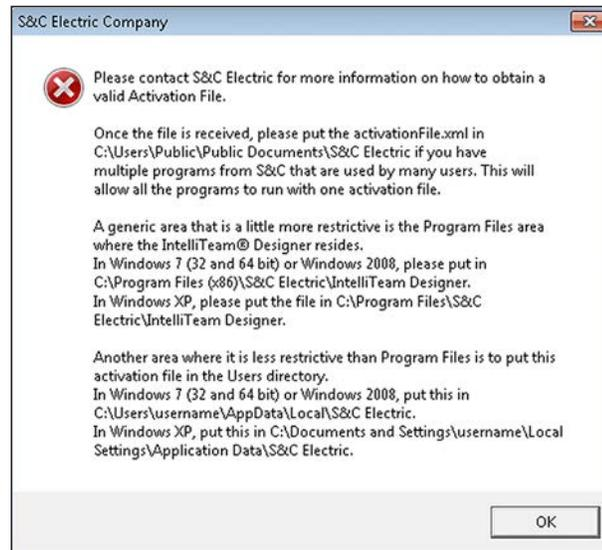

Figure 3. Startup licensing dialog box.
**Trial** mode is ideal for training and software evaluation, and it does not require activation file registration. Circuit diagram configurations created with **Trial** mode can be repopulated with the serial numbers of registered products at a later date. To use IntelliTeam Designer **Trial** mode, click on the **OK** button in the license notification dialog box and click on the **Yes** button in the IntelliTeam Designer (Trial) dialog box. See Figures 3 and 4.